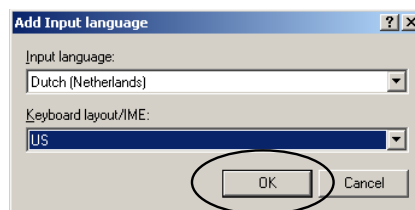

Figure 3-7 Add Input Language panel
- Select: The appropriate **Keyboard layout/IME** (see Figure 3-7)